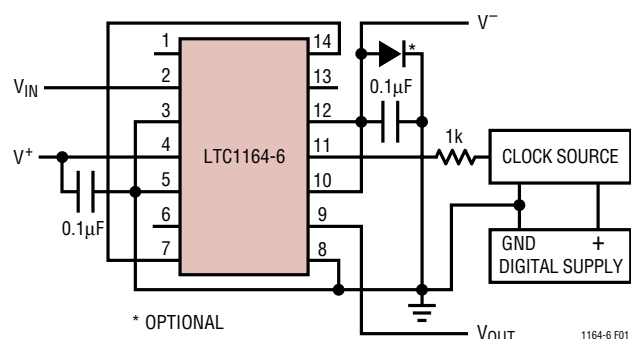

Figure 1. Dual Supply Operation for  $f_{CLK}/f_{CUTOFF} = 100:1$
could go above ground, a signal diode must be used to clamp  $V^-$ . Figures 1 and 2 show typical connections for dual and single supply operation.
**CLK (Pin 11):** Any TTL or CMOS clock source with a square-wave output and 50% duty cycle ( $\pm 10\%$ ) is an adequate clock source for the device. The power supply for the clock source should not be the filter's power supply. The analog ground for the filter should be connected to clock's ground at a single point only. Table 1 shows the clock's low and high level threshold value for a dual or single supply operation. A pulse generator can be used as a clock source provided the high level ON time is greater than  $0.5\mu s$ . Sine waves are not recommended for clock input frequencies less than 100kHz, since excessively slow clock rise or fall times generate internal clock jitter (maximum clock rise or fall time  $\leq 1\mu s$ ). The clock signal should be routed from the right side of the IC package to avoid coupling into any input or output analog signal path. A 1k resistor between clock source and Pin 11 will slow down the rise and fall times of the clock to further reduce charge coupling, Figures 1 and 2.